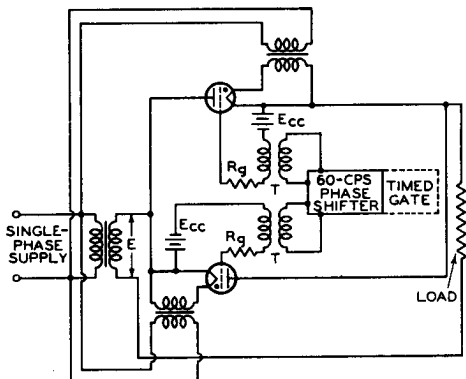

FIG. 1 SINGLE-PHASE INVERSE-PARALLEL
■ The use of a large filter-input choke is assumed except for the circuit of Figs.1 and 2.
Fig.1 Inverse-Parallel (AC Voltage Control)